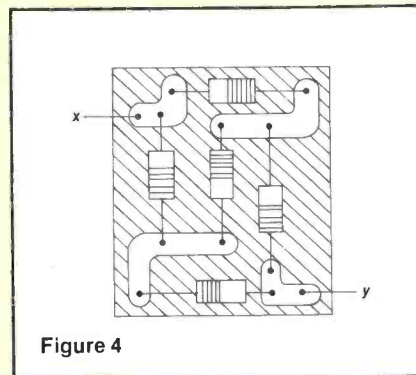

Figure 4
9. All of the resistors in the circuit of Figure 4 are 1000Ω . What is the resistance (in Ω) between points *x* and *y*?